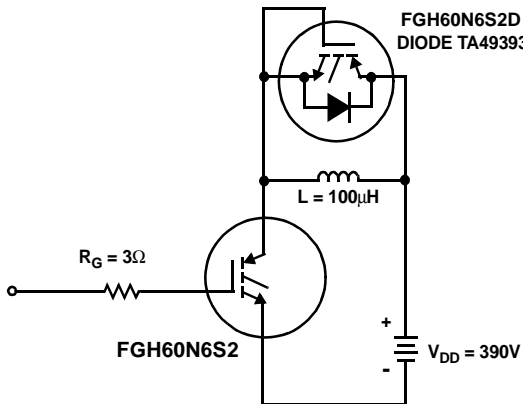

Figure 20. Inductive Switching Test Circuit
2. Values for two Turn-On loss conditions are shown for the convenience of the circuit designer. $E_{\text{ON}1}$ is the turn-on loss of the IGBT only. $E_{\text{ON}2}$ is the turn-on loss when a typical diode is used in the test circuit and the diode is at the same T_J as the IGBT. The diode type is specified in figure 20.